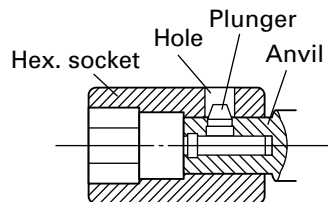

Fig. 2
6. Mounting the socket (Fig.2)